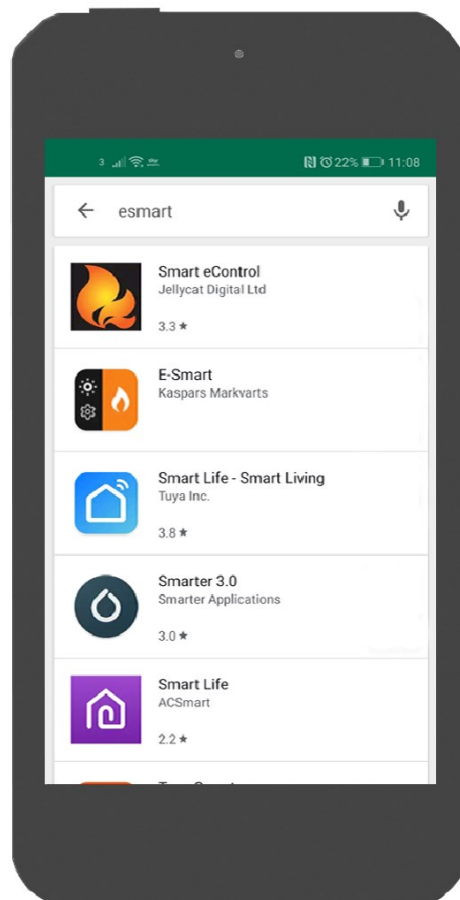

Fig 1
2. Search, locate, and download the app entitled E-Smart. (Fig 1 below) **Do Not open the app**